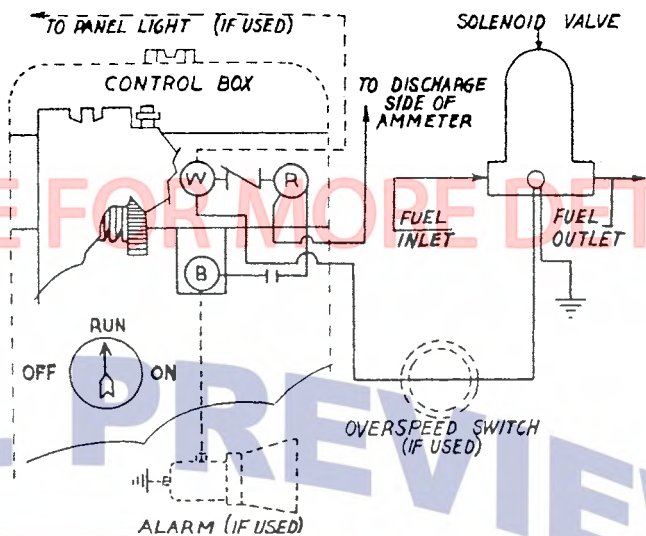

Figure 5 — Wiring Diagram, Safety Controls
F. SAFETY CONTROLS — The safety controls should be installed with the solenoid valve located in the fuel supply line between the fuel filter and the fuel injection pump. The electrical connections for this control are illustrated on the wiring diagram Fig. 5.